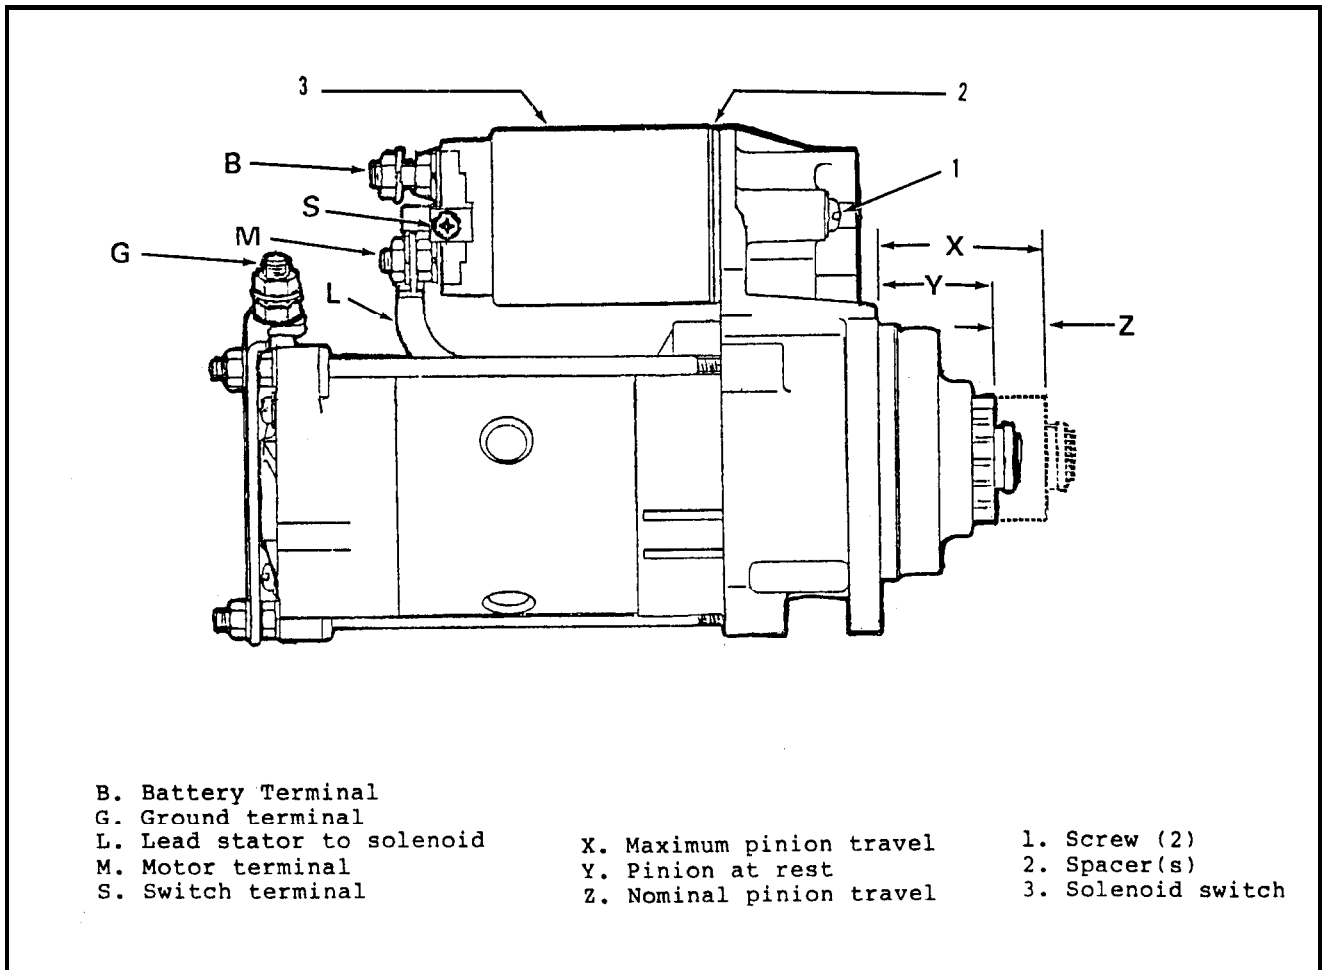

Figure 5-14. Checking Pinion Travel STYLE II Starter
(1) After starter is assembled, check the pinion gear travel to ensure proper starter engagement. See figure 5-14.